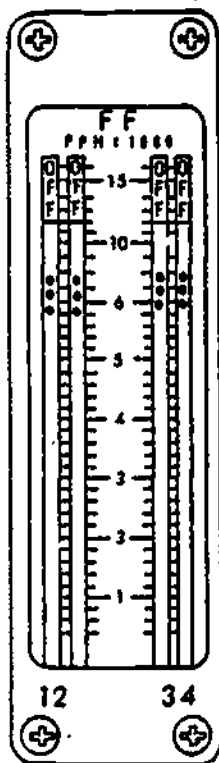

Figure 1.
The vertical scale engine instrument fuel flow indicators provide the pilot and flight engineer with indications of rate of fuel flow to the engines in pounds per hour (PPH). These new tape-type instruments present the same information to the pilot and flight engineer as do the dial-type instruments covered in earlier programmed texts. However, the tape-type instruments have two distinct advantages over the dial-type. They take up less space and are easier for the pilot and flight engineer to read at a glance. The fuel flow indications for all four engines are shown on one instrument. See figures 1 and 2.
2. The instrument shown in figures 1 and 2 indicates the fuel flow for